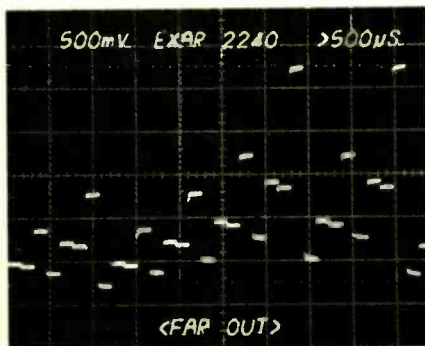

Fig. 4. Complex waveform obtained by connecting resistors to outputs.
**Waveform Generator.** Another possibility is to use the circuit as a complex waveform generator. I really mean complex, because the XR-2240 can generate all kinds of stepped waveforms. The photo in Fig. 4 shows part of a repetitive, stepped waveform generated by connecting several resistors of different values between the binary counter outputs and the circuit output.
If you don't need far-out waveforms like the one in Fig. 4, you can generate more conventional staircases. For a staircase with 255 steps, connect a resistor with a value of about 1000 ohms from pin 8 to the output. Then connect resistors 2, 4, 8, 16, 32, 64, and 128 times that value from pins 7, 6, 5, 4, 3,